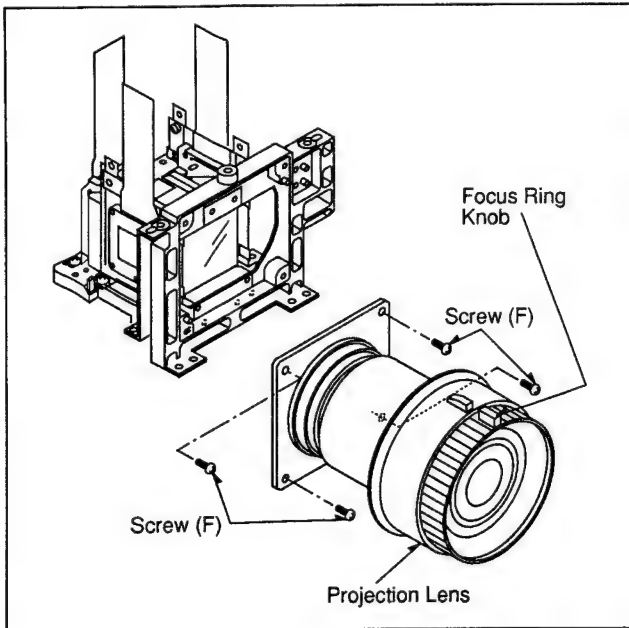

Fig. O7
1. Remove 4 screws (F) to remove the Projection Lens as shown in Fig. O7.